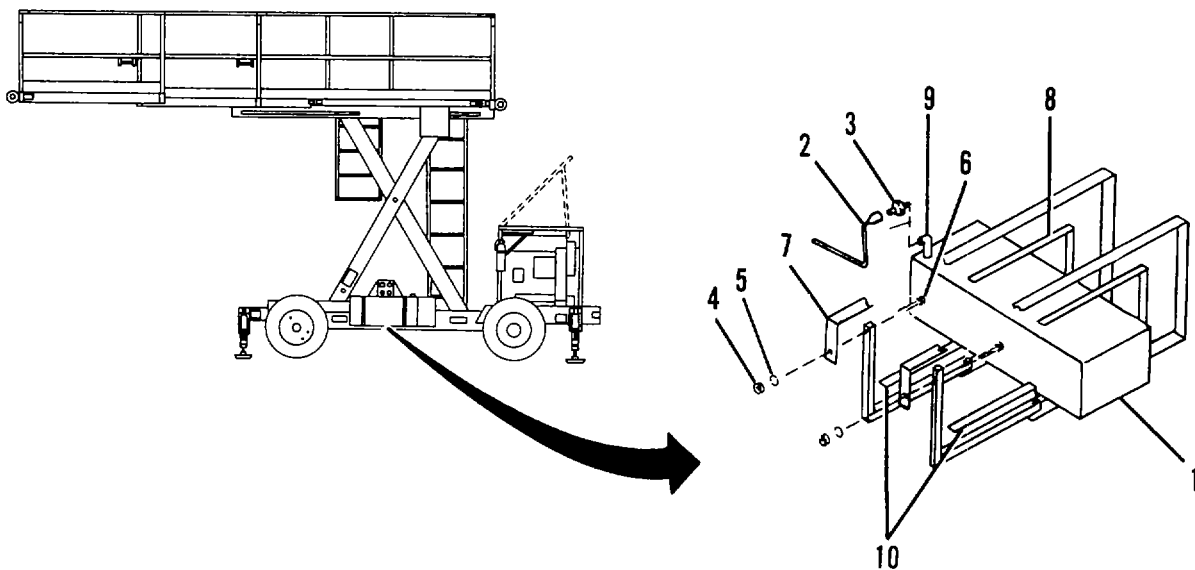

Figure 3-46. Fuel Tank, Replace.
- (1) Remove all fuel from fuel tank (1, Figure 3-46) with a fuel transfer pump.